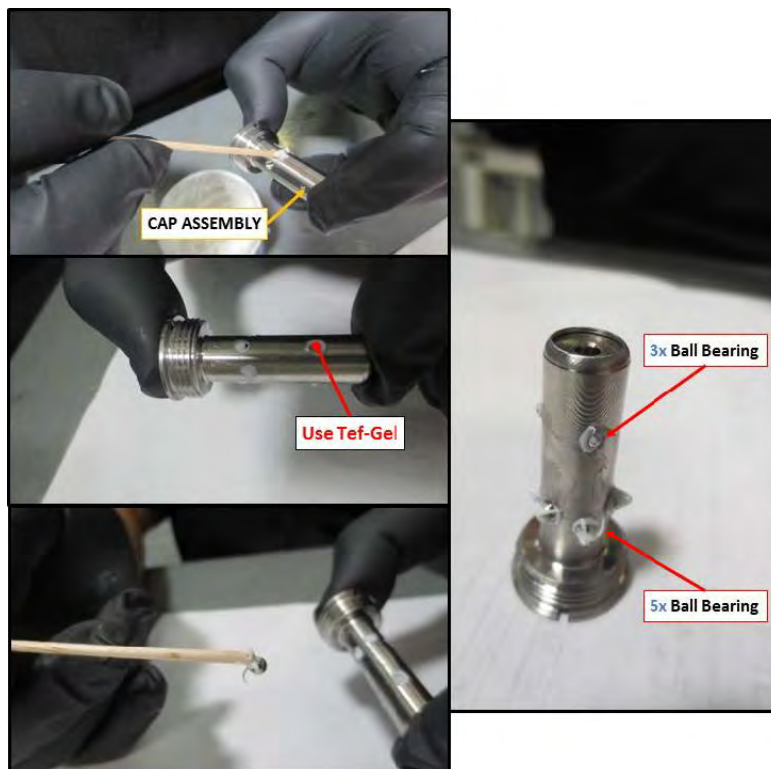

FIGURE 19-9
8. Use Tef-Gel to stick 5 balls-big (964K29) on the lower area and 3 balls-small (964K21) on the upper area of the cap assembly. (See Figure 19-9.)